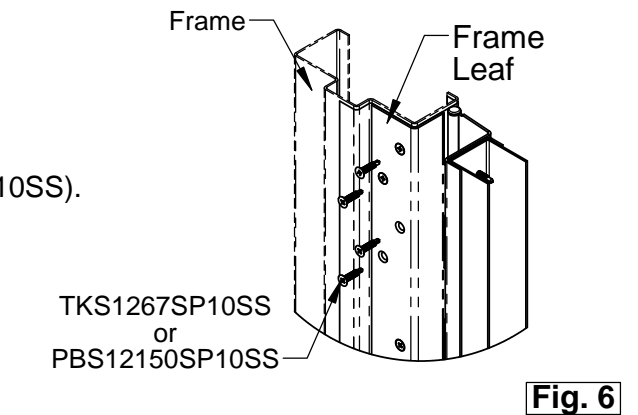

Fig. 6
2. Attaching hinge to frame: (Fig. 6)